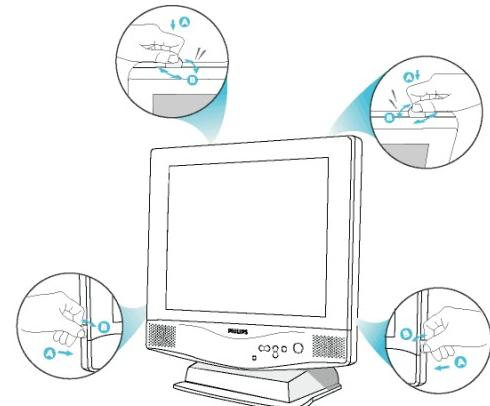

Fig. 5
Step 3 : Remove protective cover. See Fig. 5